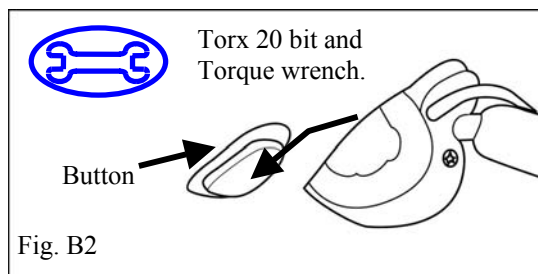

Fig. B2
2. Slide the EC mirror onto the mounting button on windshield. (Fig. B2)